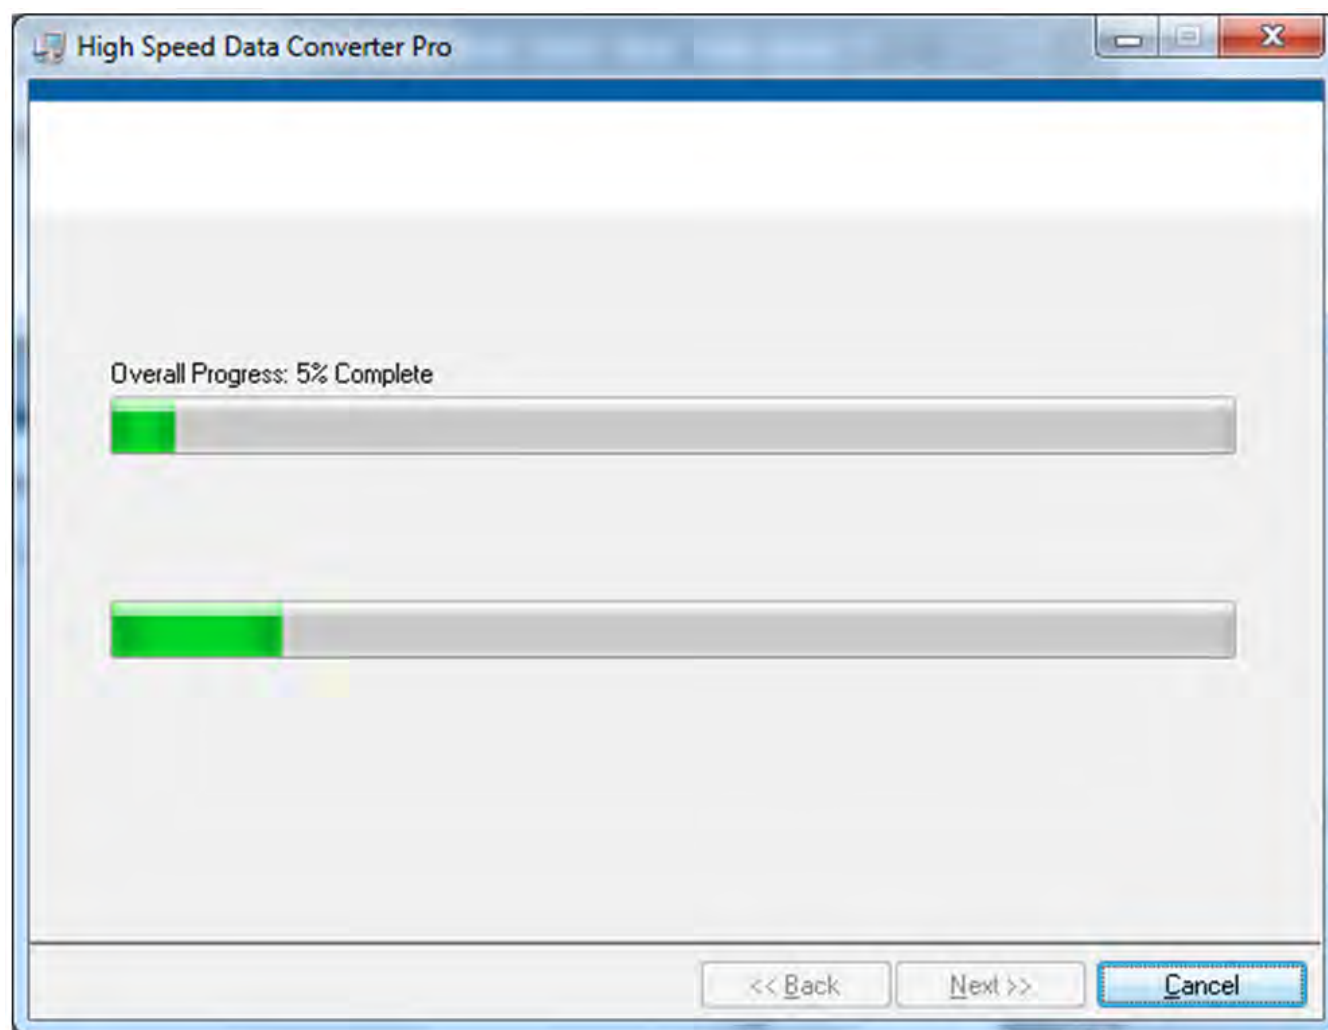

Figure 35. HSDCPro Install (Installation Progress)
- The window shown in Figure 35 should appear indicating that the installation is in progress.